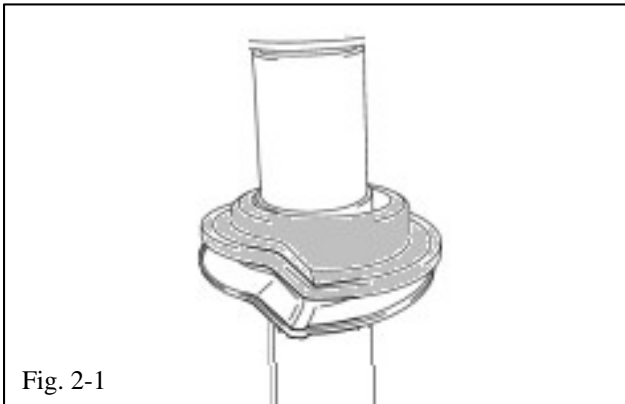

Fig. 2-1
- (b) Transfer the rear lower coil spring insulator to the new spring seat (Fig 2-1).